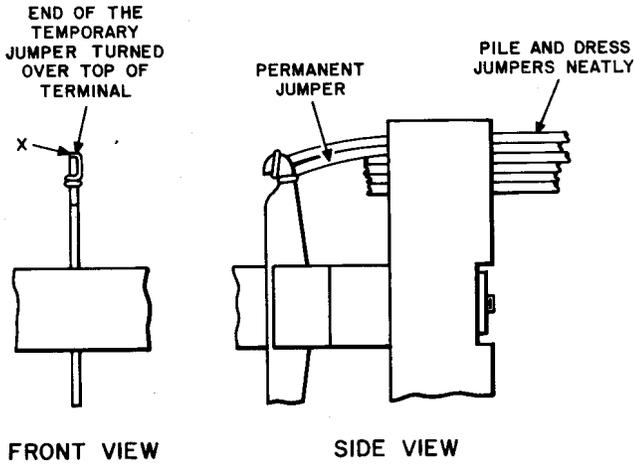

Fig. 14—Temporary Cross-Connections on 35- or Similar-Type Terminal Strip Without Back Notch Terminals
9.09 On terminal strips without extra terminals, such as the 35-type, where the terminals do not have a back notch (Fig. 14), route the jumper along the top of the permanent jumper, through the notch, up and across the top of the terminal and solder. Cut or break the wire at point "X".